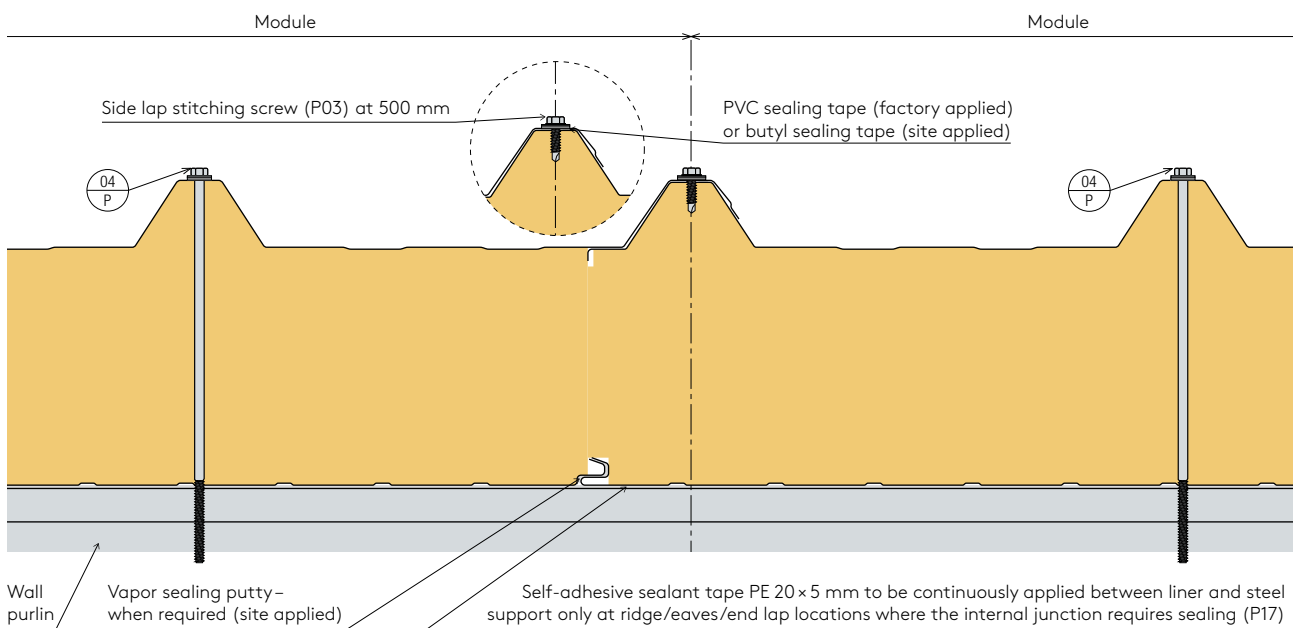

Fig. 29. - Detail D10.11. - Longitudinal Joint of an FF Panel
- If there is no sealing tape applied in the end corrugation of a panel, or this tape has been damaged in any way, it is necessary to assure that spare tape has been applied before assembly begins. If this is specifically called for in the implementation documentation, the present sealing tape may be replaced with Ø 4 mm butyl sealing tape (applied on site) (P29). The required sealing tape is a part of the panel delivery (see Fig. 29).
- Before the final fastening of panels to a steel construction the longitudinal joints of panels (locks) are fastened with self-drilling (thread-cutting) \varnothing 4.8 mm or \varnothing 5.5 mm screws (P03) on a corrugation, spaced apart by 500 mm at most (see Fig. 29).